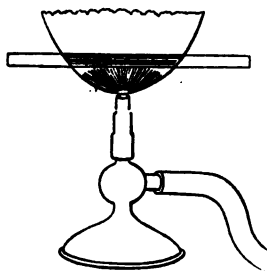

Fig. 4.
1. For bending glass use the ordinary gas flame (Fig. 4), or a fish-tail attachment to a Bunsen burner, as the Bunsen flame is too hot. Turn down the gas till the flame is about  $5\text{cm}$  across. Bend in the middle and at right angles
each of 2 or 3 pieces of glass tubing  $14\text{cm}$  long, as follows: Take the *ends* of the tube lightly in the fingers and hold the *middle* lengthwise in the flame, just above the dark part. (Fig. 4.) It must be kept constantly in the flame and slowly rotated with the fingers. It will soon be covered with soot and finally begin to soften, the part which is near the middle of the flame yielding first. A slight pressure indicates the softening.